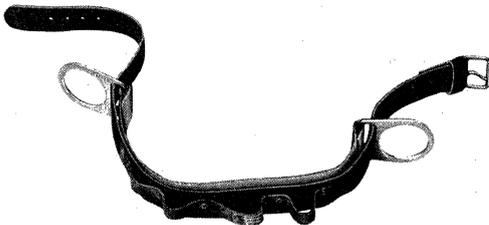

Fig. 2—F Body Belt
2.04 The F Body Belt (Fig. 2) is a light weight belt with the strap portion consisting of six-ply neoprene-impregnated nylon cloth. It provides adequate strength to permit the wearer to be secured with the safety strap attached to one Dee ring. Between the center plies of the strap is a marker of a contrasting color from that of the outer plies. Exposure of the colored marker by wear or cutting indicates that the belt should be removed from service.